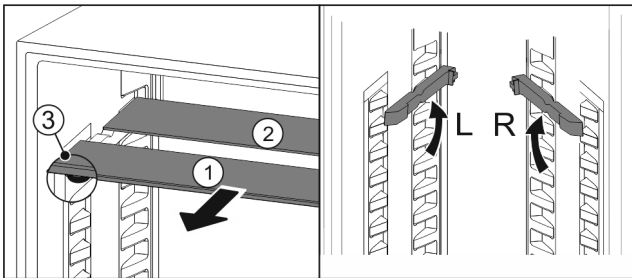

Fig. 131
- ▶ Pull the glass panels out Fig. 131 (1) from the front, one at a time.
- ▷ The glass panel Fig. 131 (1) and trim strip are at the front.
- ▷ The stops Fig. 131 (3) point down.